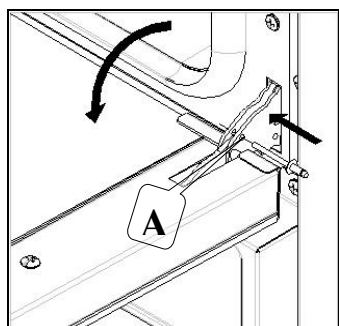

Fig. 8
- hook the rings "A" onto the hinge seats (Fig. 8);